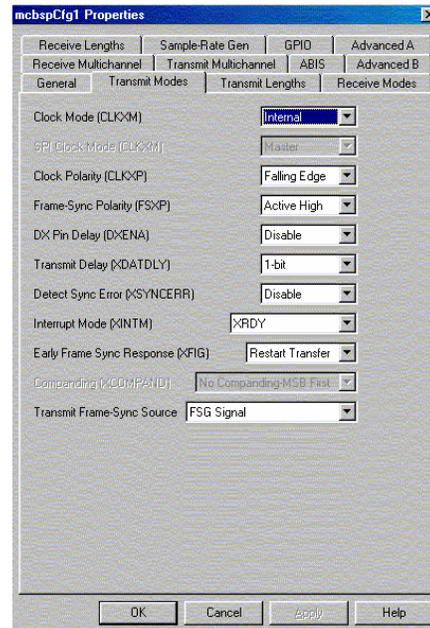

Figure 9. McBSP Transmit Mode Tab
4. In the *Transmit Modes* tab, select options as shown in Figure 9. Set CLKX and FSX to be generated by McBSP. Set CLKX and FSX polarity to falling edge and active high, respectively. The transmit delay bit field is set to 1-bit, causing the START bit to appear on DX following the falling edge of unconnected FSX1 signal.